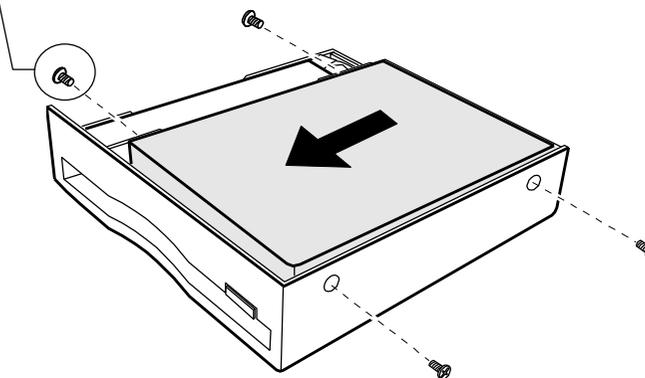

Figure 5-12. Removing the Hard Disk I
3. Remove four screws and disconnect the hard disk drive from the connector. (Refer to Figure 5-12.)
1. Place the hard disk drive in the bracket and plug in the hard disk drive connector. Then secure the hard disk drive with four screws. (Refer to Figure 5-12 )